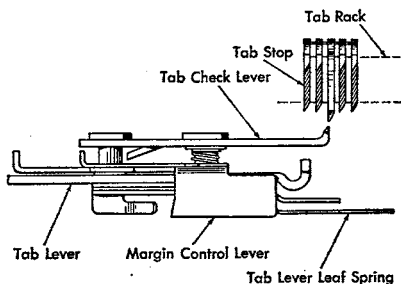

Figure 21. Tab Rack Adjustment
a. With the carriage resting on the 2 or 6 escapement pawl, the tab rack should be adjusted left or right until the tip of the tab check lever will be in line with the nearest set tab stop (Figure 21). This adjustment will determine the correct re-entering position of the escapement pawls in relation to the escapement rack teeth upon completion of a tab operation.